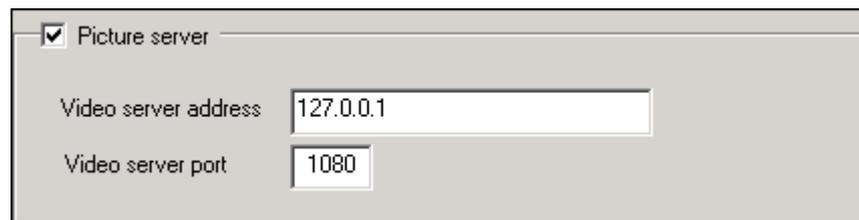

Fig. 16 *Picture-Server* in the *Network* tab
2. Mark the checkbox **Picture server** (see "Fig. 16 ", page 30).